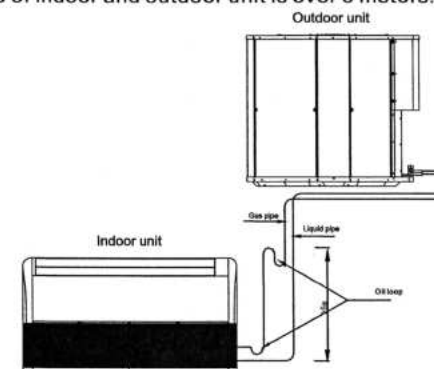

Fig 21
■ When connect pipe length over 5 meters(single distance),use vacuum pump to exhaust the air ; As for the unit utilizing R410A, it must use vacuum pump to exhaust the air no matter how long the pipe is . (Refer to Fig 21)
- ① Open Nut A, connect Charging hose 1 of the manifold to valve A (Valve A and B must be turned off). Then connect Charging hose 2 to the vacuum pump.
- ② Open Low pressure handle of the manifold Lo complete.
- ③ Start the vacuum pump to exhaust the air. Open valve B a little to check whether the air come in or not.(The noise from vacuum pump changes and the reading of gauge alters from negative to zero),and then tighten the valve nut.
- ④ After exhausting the air, close Low pressure handle of the manifold (Lo) completely.
When the height difference between indoor and outdoor units is relatively large, oil loops should be used to facilitate for oil return. Please refer to the following typical mounting methods in Fig 21